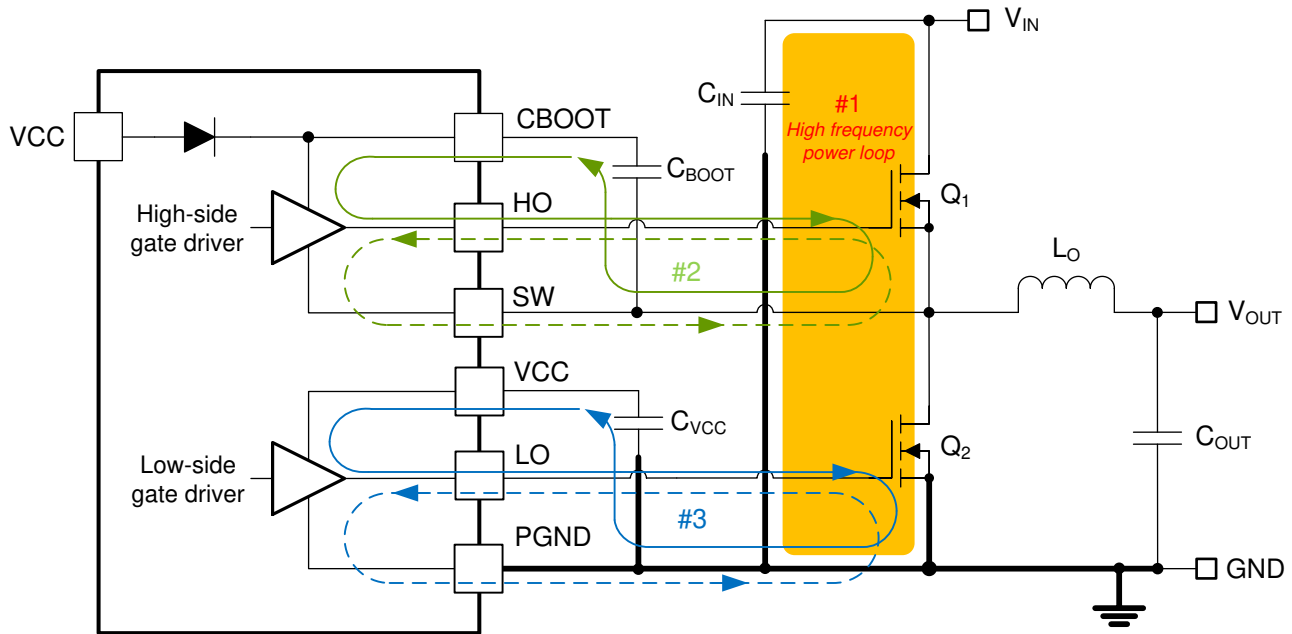

图 9-35. DC/DC Regulator Ground System With Power Stage and Gate Drive Circuit Switching Loops
Proper PCB design and layout is important in a high-current, fast-switching circuit (with high current and voltage slew rates) to achieve a robust and reliable design. As expected, certain issues must be considered before designing a PCB layout using the LM25148-Q1. The high-frequency power loop of a buck regulator power stage is denoted by loop 1 in the shaded area of 图 9-35. The topological architecture of a buck regulator means that particularly high di/dt current flows in the components of loop 1, and it becomes mandatory to reduce the parasitic inductance of this loop by minimizing its effective loop area. Also important are the gate drive loops of the high-side and low-side MOSFETs, denoted by 2 and 3, respectively, in 图 9-35.
- Loop 1: The most important loop area to minimize is the path from the input capacitor or capacitors through the high- and low-side MOSFETs, and back to the capacitor or capacitors through the ground connection. Connect the input capacitor or capacitors negative terminal close to the source of the low-side MOSFET (at ground). Similarly, connect the input capacitor or capacitors positive terminal close to the drain of the high-side MOSFET (at V_{IN}). Refer to loop 1 of 图 9-35.
- The SW pin connects to the switch node of the power conversion stage and acts as the return path for the high-side gate driver. The parasitic inductance inherent to loop 1 in 图 9-35 and the output capacitance (C_{OSS}) of both power MOSFETs form a resonant circuit that induces high frequency (greater than 50 MHz) ringing at the SW node. The voltage peak of this ringing, if not controlled, can be significantly higher than the input voltage. Make sure that the peak ringing amplitude does not exceed the absolute maximum rating limit for the SW pin. In many cases, a series resistor and capacitor snubber network connected from the SW node to GND damps the ringing and decreases the peak amplitude. Provide provisions for snubber network
- Loop 2: high-side MOSFET, Q_1 . During the high-side MOSFET turnon, high current flows from the bootstrap (boot) capacitor through the gate driver and high-side MOSFET, and back to the negative terminal of the boot capacitor through the SW connection. Conversely, to turn off the high-side MOSFET, high current flows from the gate of the high-side MOSFET through the gate driver and SW, and back to the source of the high-side MOSFET through the SW trace. Refer to loop 2 of Figure 9-35.
- Loop 3: low-side MOSFET, Q_2 . During the low-side MOSFET turnon, high current flows from the VCC decoupling capacitor through the gate driver and low-side MOSFET, and back to the negative terminal of the capacitor through ground. Conversely, to turn off the low-side MOSFET, high current flows from the gate of the low-side MOSFET through the gate driver and GND, and back to the source of the low-side MOSFET through ground. Refer to loop 3 of Figure 9-35.